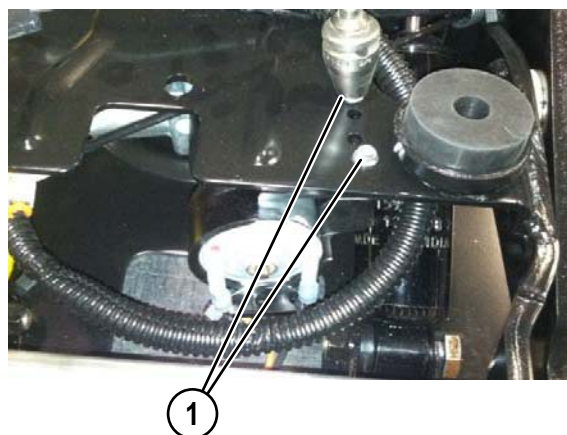

FIGURE 3-22.
16. Install mounting cap screws (1, Figure 3-22) and tighten to **3 N·m (30 in. lb)**.